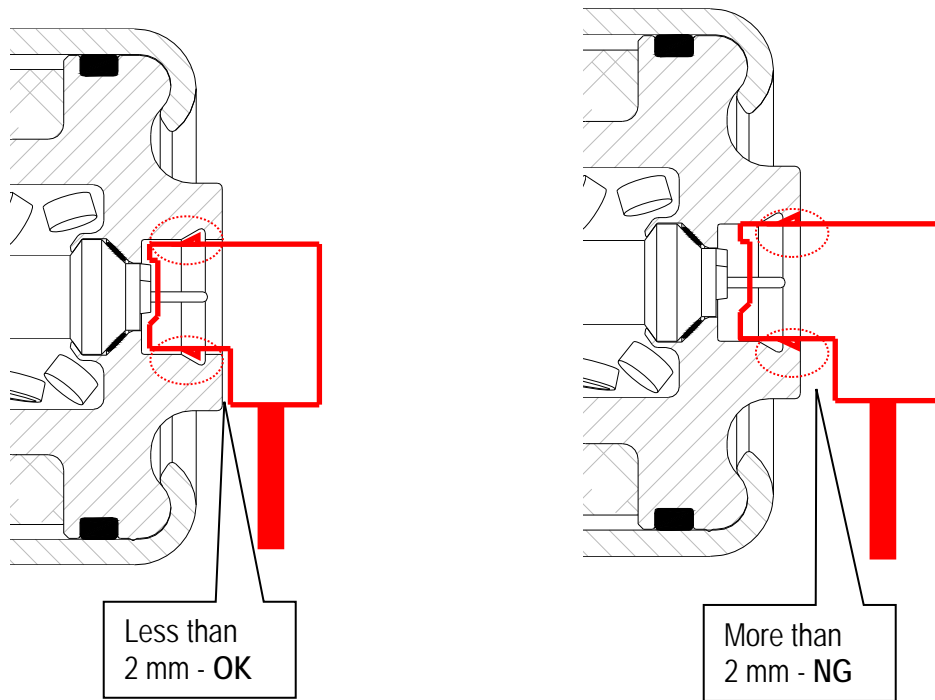

Figure 34
- Make sure harness connector is fully engaged / seated (see Figure 34).